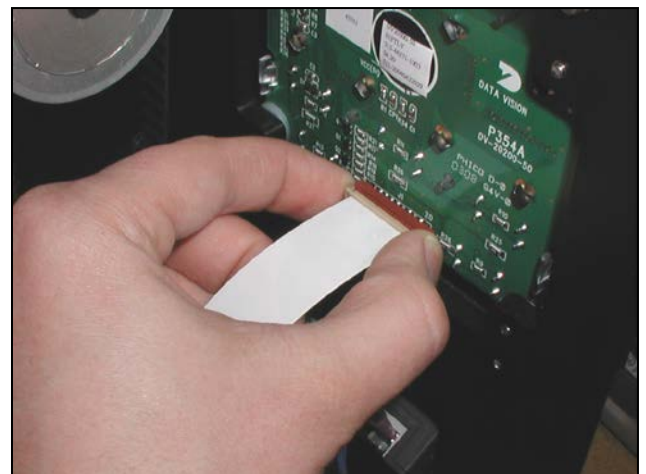

Figure 3-130. White Ribbon Cable Lock
3. Unlock both sides of the cable from their connectors by pulling the sides of the connectors out (Figure 3-130).